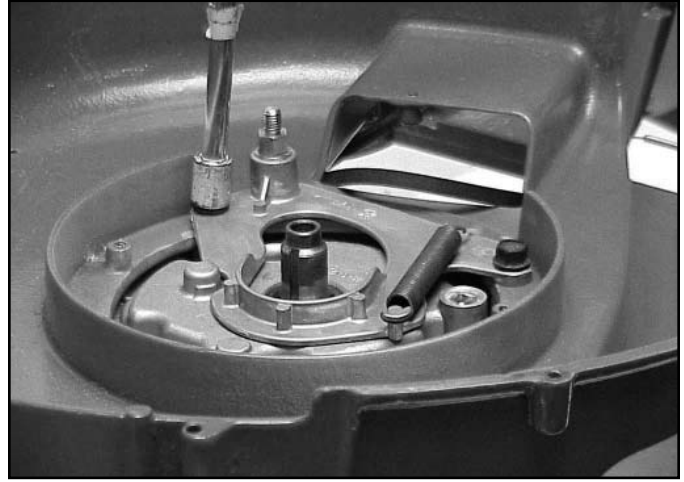

Fig 217
14. Remove the two bolts holding the anchor plate to the chassis (Fig. 217).